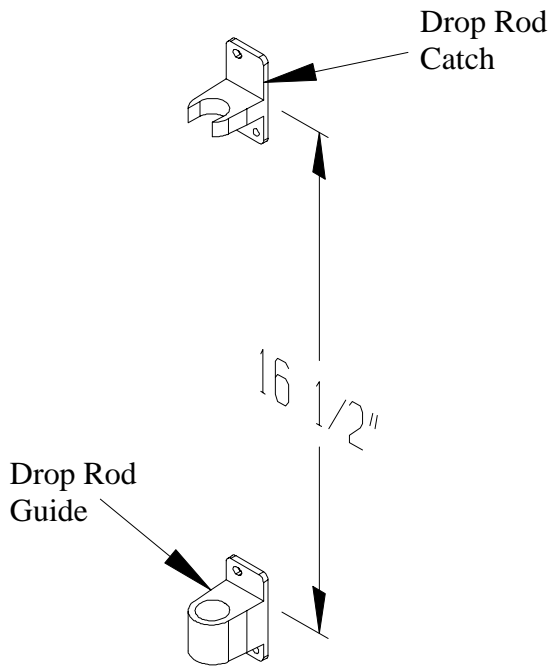

FIGURE 9
5.1. Mount a drop rod guide two (2) inches from the bottom of the gate by drilling two (2) 7/64" holes and fastening the guide with two (2) # 6 x 3/4" self-tapping screws. Fasten the drop rod catch 20 inches above the bottom of the gate in the same fashion as the guide. Before fastening the catch, use the drop rod to align the guide and catch. See Figure 9.